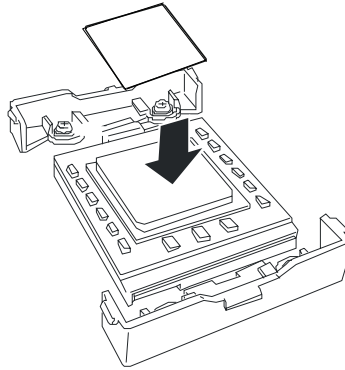

Figure 4-13. Installing the Thermal Cooling Sheet
9. Very carefully apply the thermal interface material (heat radiation sheet) on top of the processor so that it is completely covered. See Figure 4-13.